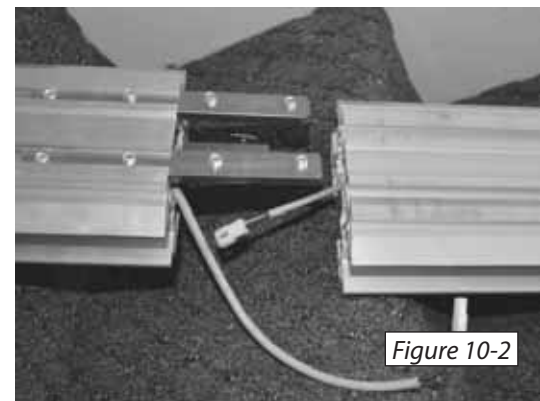

Figure 10-2
3. Position the two ends of the rails close together. Connect the plugs on each end of the two power supply wires inside the rail pieces. [Figure 10-2 and 10-3]